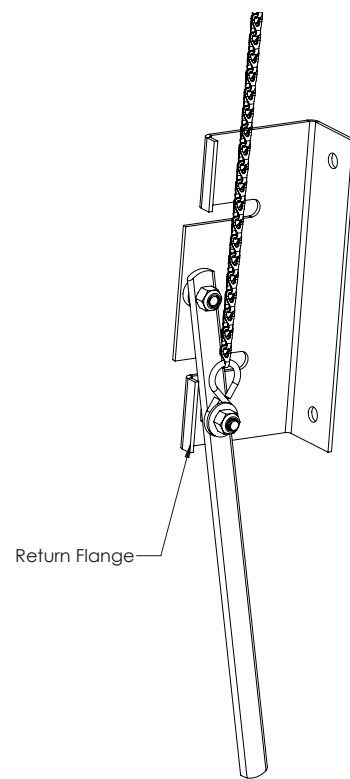

FIGURE 5
1. Pull the disconnect arm down until it is retained behind the return flange on the bottom side (Figure 5). This will disengage the motor. It will also engage the hoist mechanism if present.